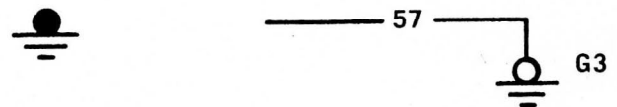

Fig. 1 — Ground Symbols
- Ground symbols are shown in Figure 1. A ground wire connected away from the component is identified by a code G1 or G2, etc. The location of the remote ground is listed in the GROUND CODES chart and the bottom of the page.